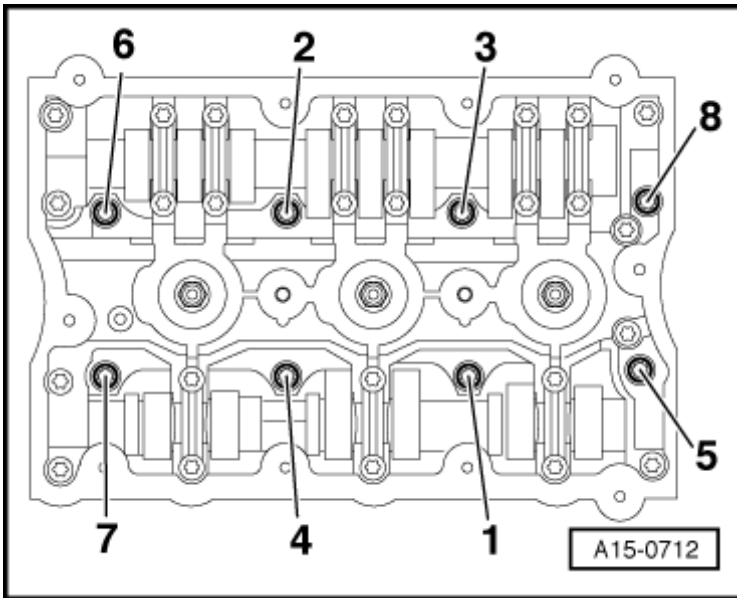

Fig. 7: Tightening Cylinder Head Bolts In Sequence
- Tightening specification and sequence, refer to **Fig. 7**